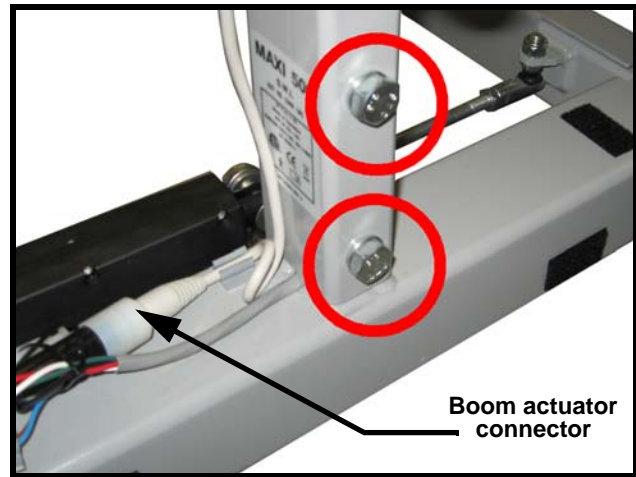

Fig. 20
- 7) Unscrew the two bolts at the lower end of the mast (see Fig. 20).